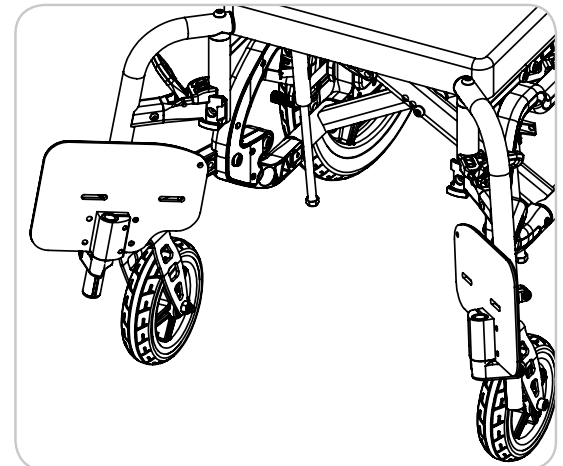

Figure 24
3. Swing out front rigging. Reference Figure 24.